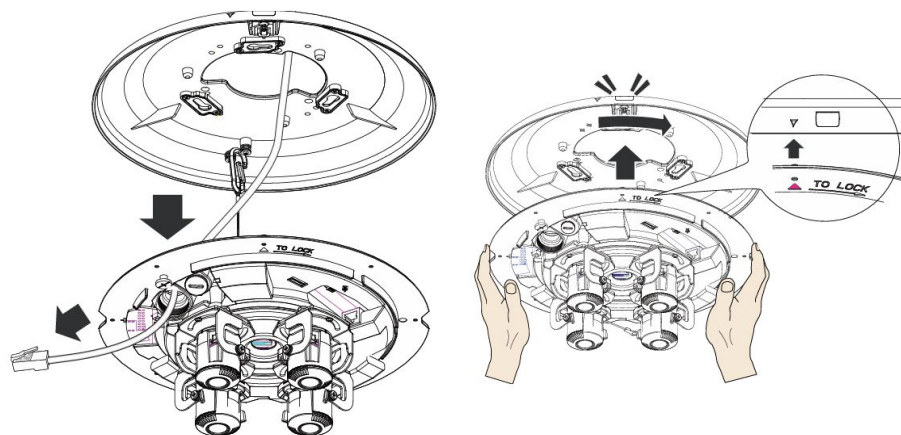

Figure 1-6
Step 6 Route network cable, then align the triangle on the lip of the **Main Body** with the triangle on the **Base Plate**. Seat the **Main Body** into the **Base Plate** and rotate the Main Body counterclockwise, to lock it into place. See Figure 1-6.